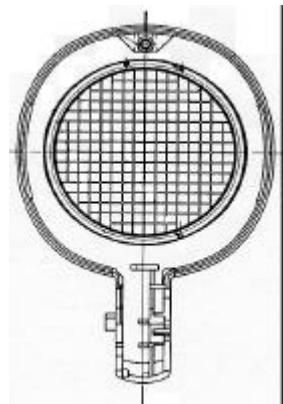

Figure 6
- (5) Set air outlet grill and outlet ring to heater block by align rib of air outlet ring with slot of front housing as shown in Figure 6.